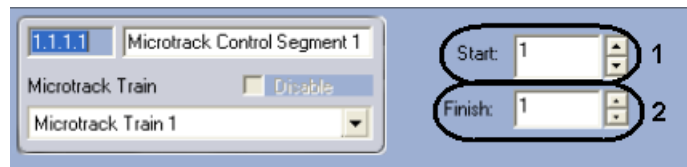

Fig. 3.5—2 Configuring a Microtrack control segment
2. In the **Start** field, use the **up arrow** and **down arrow** buttons to indicate the number of the subcell that matches the key point where the control segment begins (see Fig. 3.5—2, **1**).
3. In the **Finish** field, indicate the number of the subcell that matches the key point where the control segment ends (see Fig. 3.5—2, **2**).